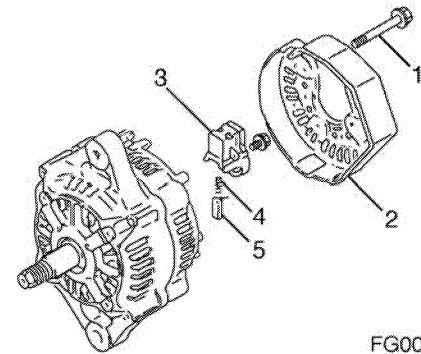

Figure 391
2. Remove the three bolts (1, Figure 391) retaining the rear cover (2, Figure 391) to the rear frame assembly.
3. Remove the brush holder (3, Figure 391). Remove the brush springs (4, Figure 391) and brushes (5, Figure 391).